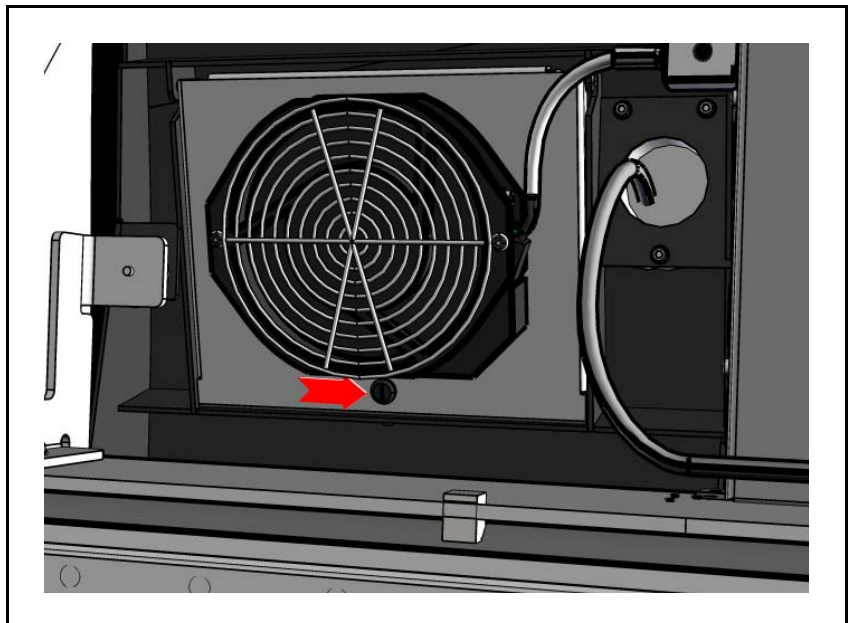

Figure 16-25. Fan assembly.
3. Use a large slotted screwdriver to turn the black plastic screw holding the fan assembly in place (see Figure 16-25).